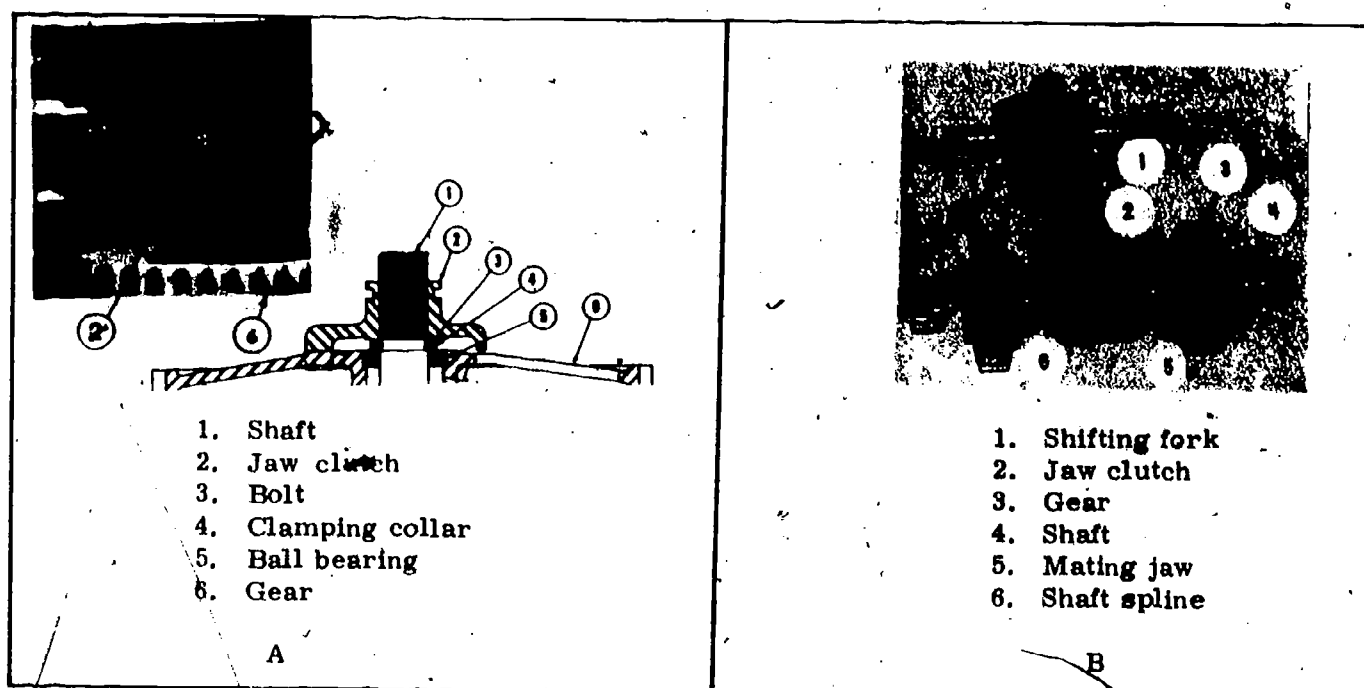

Fig 3-8. Jaw clutches.
5. Jaw. This type of clutch (fig 3-8) is constructed of gears that have metal-to-metal friction surfaces. Some are spring-loaded, some are positively engaged, and some require continuous pressure by the operator through mechanical linkage. The mating surfaces of the positively engaged clutch (A, fig 3-8) are cut at such an angle that the twisting force will not push them apart; the jaw of one member slides into a slot of the other member. Continuous pressure clutches (B, fig 3-8) have rounded or beveled jaws that can be pushed apart by the twisting force. They require continuous pressure by the operator or a spring to keep the friction surfaces in contact.